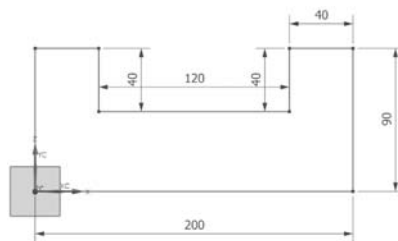

Figure 2-57 Sketch after drawing the lines
15. Press the ESC key twice to exit the **Profile** tool. The sketch after drawing the lines is shown in Figure 2-57.